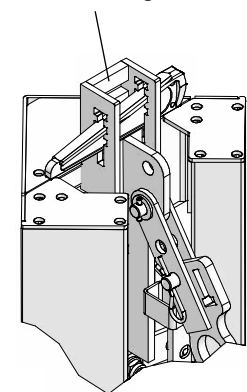

Fig. 54.6 Pouring position
1. Insert the wedge integrated into the stripping corner into the connecting device (Position C, Fig. 54.6).
8. Reinsert the wedge into the connecting device (Fig. 54.6).